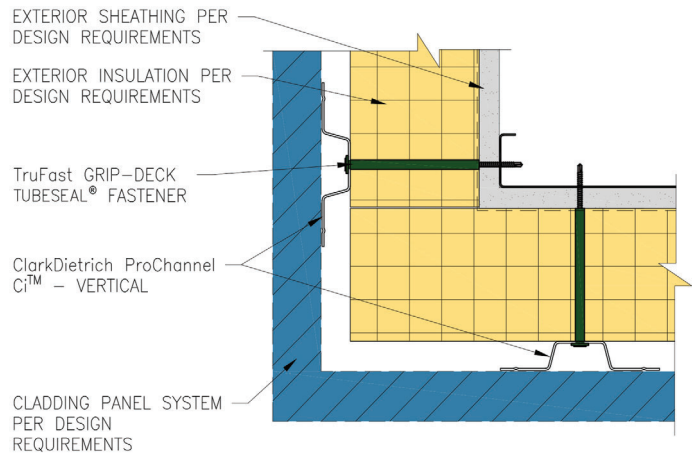

Figure 4
Step 4 For Inside or outside corner details, see Fig. 4 and Figure 5.